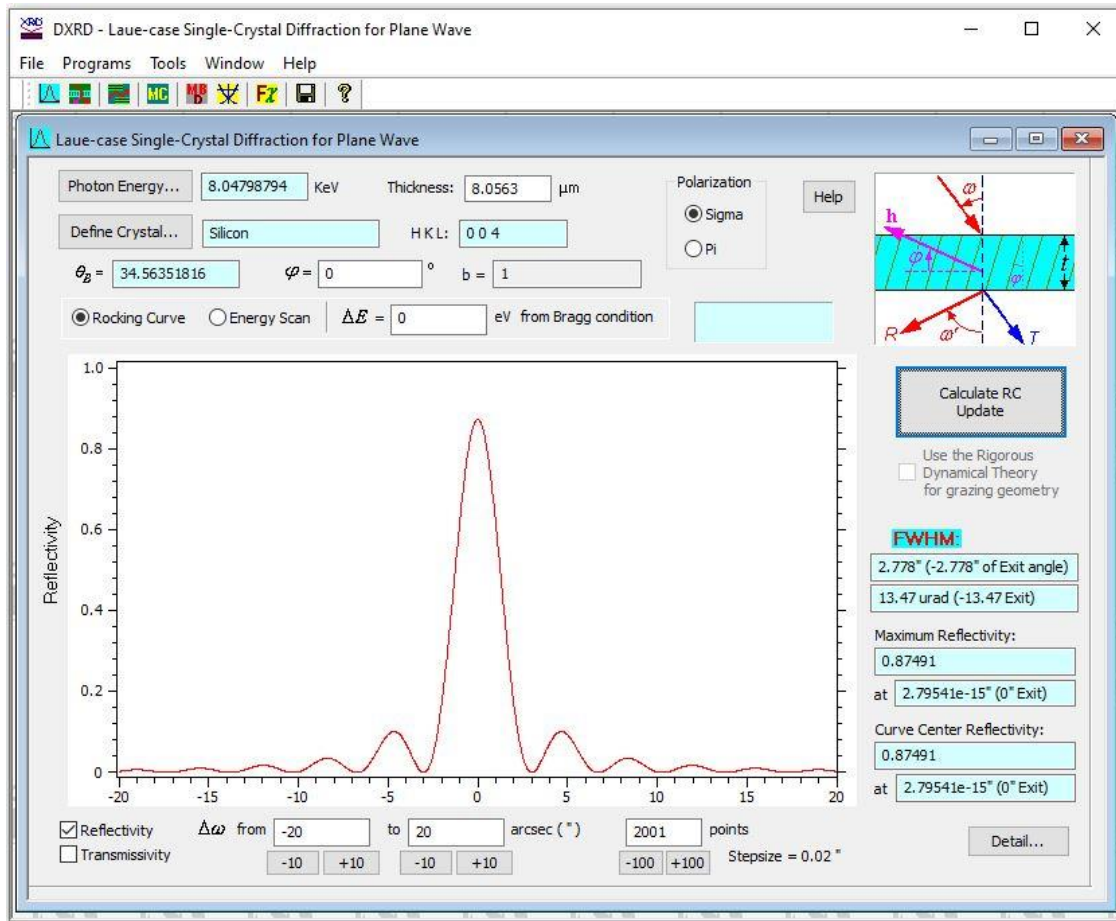

Figure A2. The Laue-case Diffraction program.
This program is similar to the above Bragg-case program. The major difference is that the “**Incident Angle ω** ” and the “**Exit angle ω'** ” are defined differently with respect to the Crystal Surface, see Figure A2. Also see the definition of the **Asymmetric Angle φ** . The crystal thickness for the Laue case must always be finite (> 0 , NOT -1). The Reflectivity (R) Curve for the Laue cases show oscillation fringes in most cases. In particular, thick crystals have rapid reflectivity oscillation. For a constant incidence angle, the reflectivity also changes periodically with crystal thickness, which is called the “**Pendellösung**” phenomenon. The periodicity is called the “**Pendellösung distance**”, denoted by $\tau(\Delta\omega)$. When the crystal thickness is $t = N\tau$, the central reflectivity becomes 0. The central reflectivity is maximized when at $t = (N + \frac{1}{2})\tau$. Here $N = 0, 1, 2, \dots$ is an integer. In the “**Detail...**” dialog, both the analytical “**Pendellösung distance**” and “**Half**